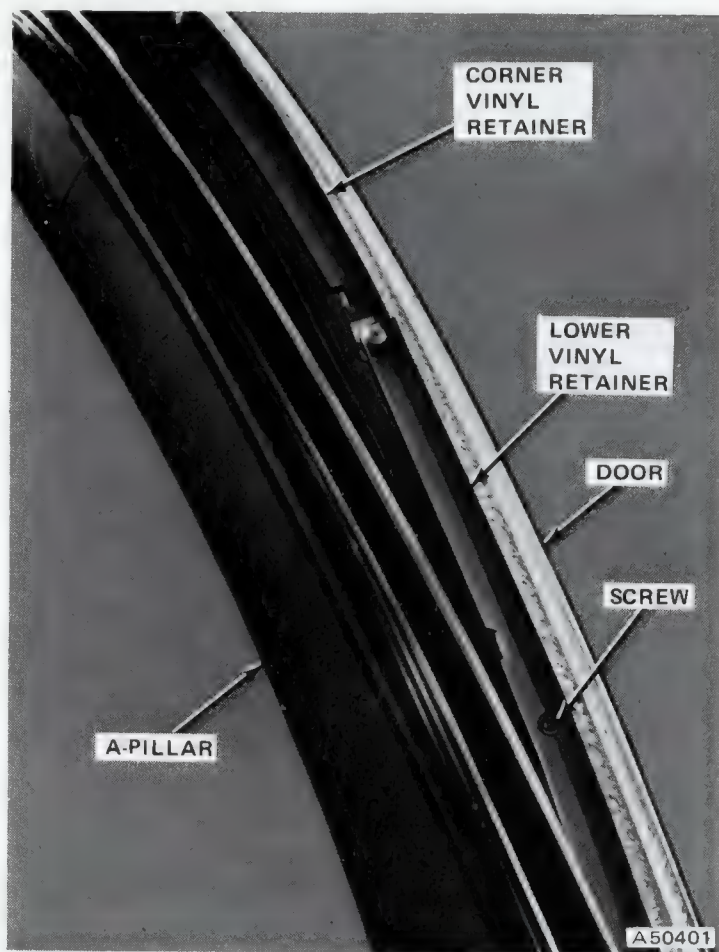

Fig. 3P-5 Removing Vinyl Retainers from Door—Pacer
(1) Remove ornamentation mouldings, clips, and vinyl retainers (fig. 3P-5).